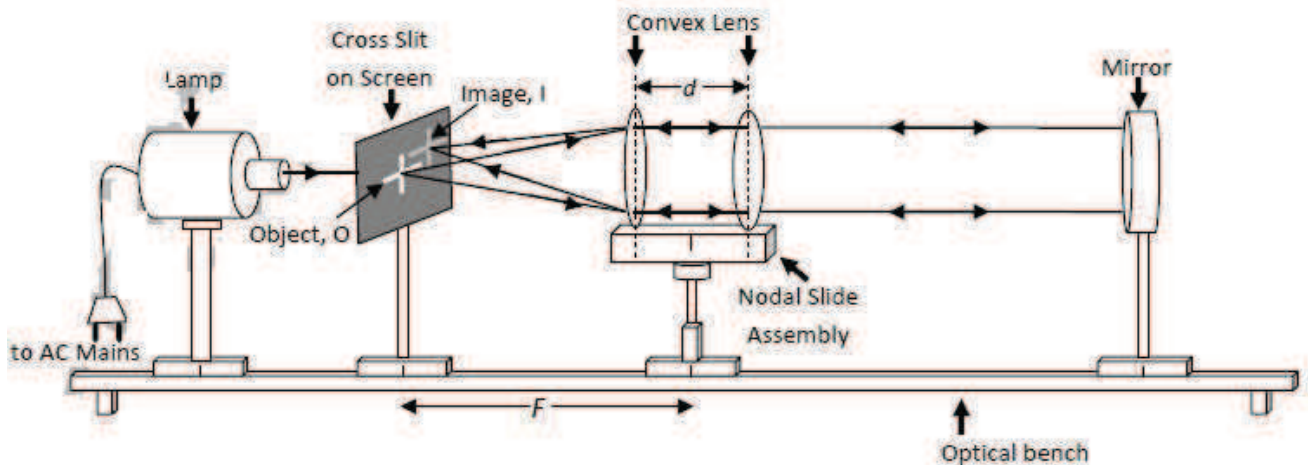

Figure 4: Experimental arrangement to observe focal length  $F$  of combination of two lenses.
6. Now clamp both the lenses on the lens carriage at a known separation ( $d$ ) in such a way that both the lenses are at equidistance from the centre of the nodal slide assembly, shown in Figure 4. Repeat the procedure with the combination of two lenses and determine the focal length  $F$ .